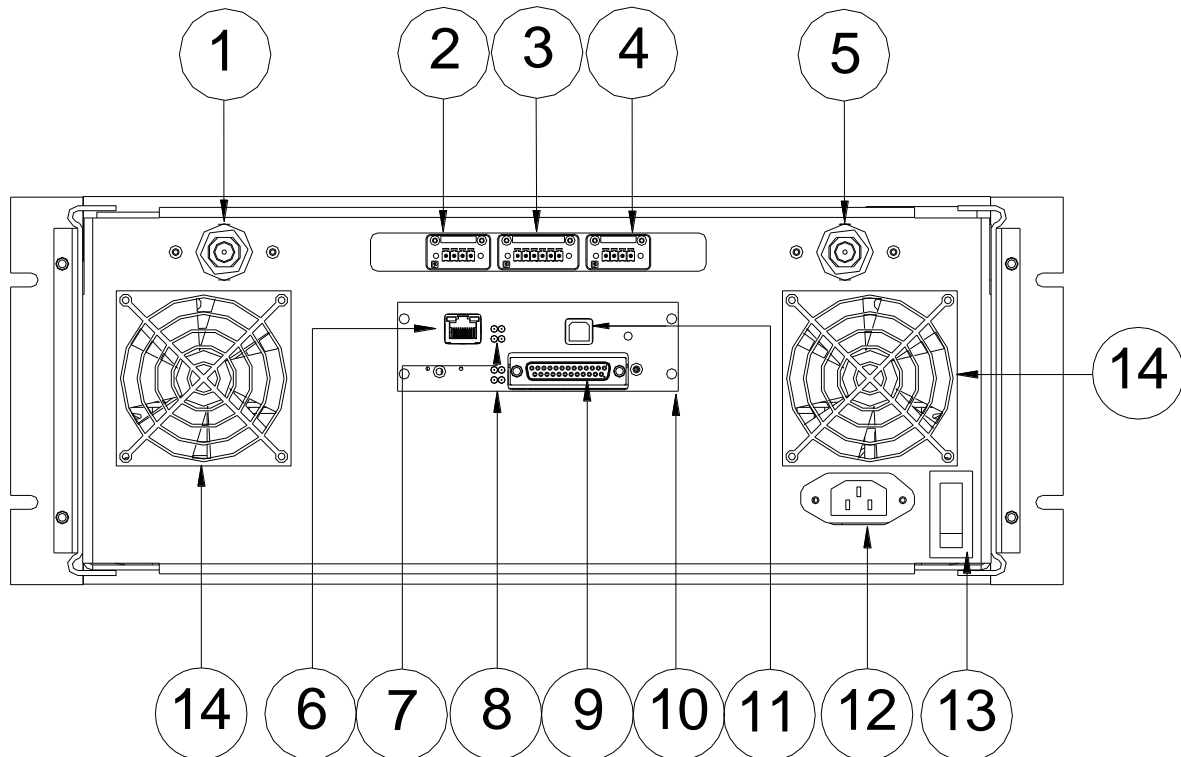

Figure 2 - Rear Panel details.
Figure 2 shows the connectors and visual status that the D.U.T rear panel has. Table 2 contains a brief explanation.
1. Use an Ethernet crossover cable for connect equipment directly to a PC computer LAN port (refer to Item #8 in Figure 2).
1. Use a coaxial cable to connect the test instrument input to D.U.T. Donor/Base or Service/Mobile when corresponds (refer to Items #2 and #8 in Figure 2).
2. Use a coaxial cable to connect the RF generator output to D.U.T. Donor/Base or Service/Mobile when corresponds (refer to Items #2 and #8 in Figure 2).